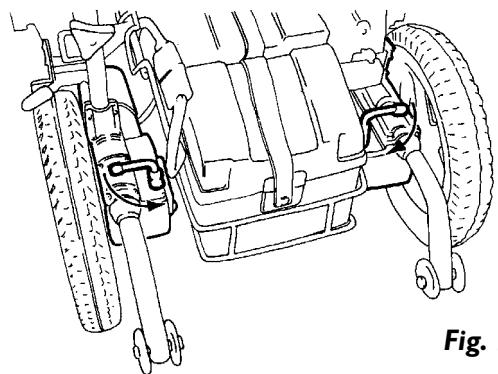

Fig. 2
The maximum safe slope of your Phoenix Plus powerchair is 7°. **DO NOT** attempt to traverse or descend slopes that are in excess of this figure, fit anti-tipping levers (Fig. 2) for slopes and outdoor use.
1. Anti-tipping levers are fitted (Fig. 2).